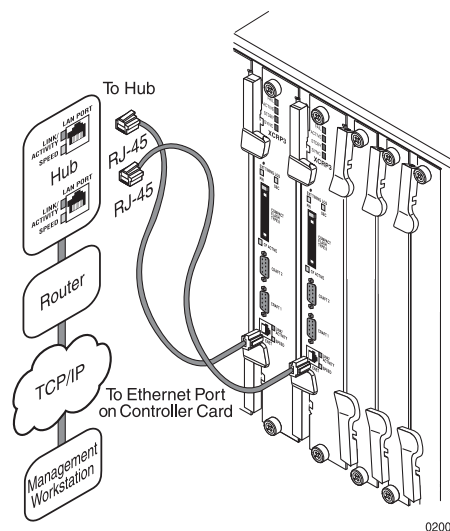
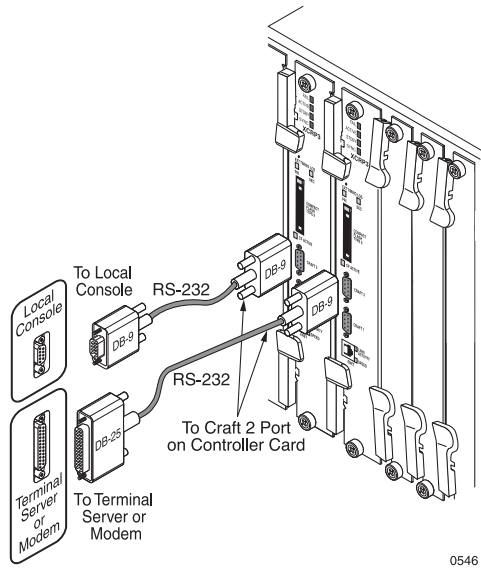

Figure 22 Connections for a Management Workstation
Figure 23 Connections for a Local or Remote Console
- a Management workstation; see Figure 22.
- b Console terminal; see Figure 23.
3. Connect and route the management access cables, depending on the type of management access you have selected; see Figure 22 for connecting a management workstation and Figure 23 for connecting a local or remote console.
A management workstation is connected to the SmartEdge 800 router using the Ethernet port on the front of a controller card. This type of connection provides access to the SmartEdge OS command-line interface (CLI) after you have configured the port. Figure 22 shows the connections to the Ethernet ports on a pair of controller cards.
A local or remote console terminal is connected to the SmartEdge 800 router using the Craft 2 port on the front of a controller card. This type of connection provides access to the SmartEdge OS CLI, either directly or through a terminal server. Figure 23 shows the connection to the Craft 2 port.